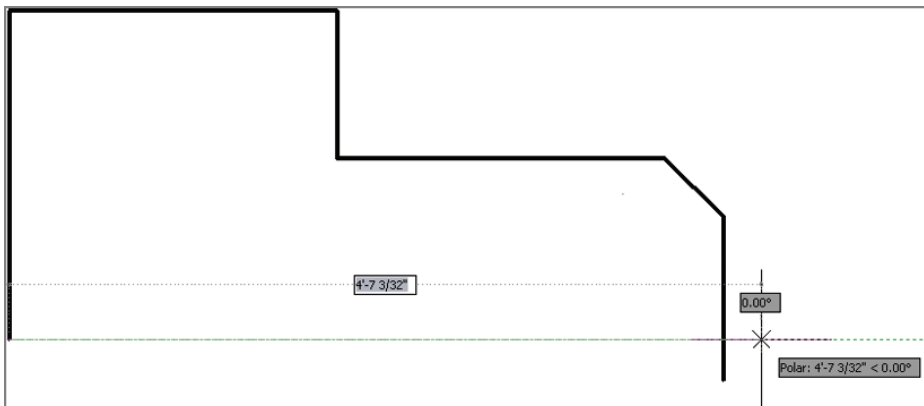

FIGURE 3.8 Drawing a horizontal line that overshoots the vertical line
9. Move the cursor horizontally to the right until it overshoots the last line drawn in step 5. Click to draw the line without worrying about its length (see Figure 3.8). Right-click to complete the command.